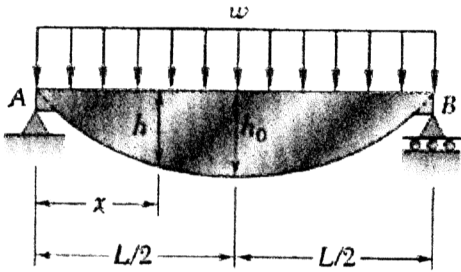

Fig. 4.
4. (20%) The beam AB, consisting of a cast-iron plate of uniform thickness b and length L , is to support the load shown. (a) Knowing that the beam is to be of constant strength, express h in terms of x , L , and h_0 . (b) Determine the maximum allowable load if $L = 36\text{in.}$, $h_0 = 12\text{ in.}$, $b = 1.25\text{ in.}$, and $\sigma_{\text{all}} = 36\text{ ksi}$. (Fig. 4.)